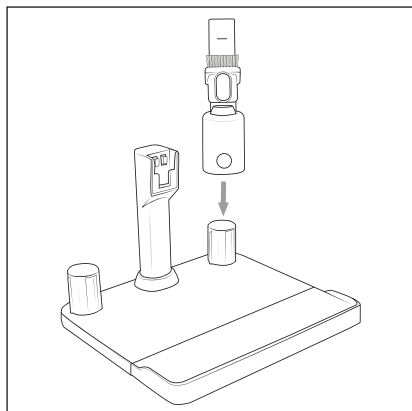

Fig. 13
- ◆ After use, press the On/Off switch (1) (30) to switch off the appliance. The display panel (27) goes out.
- ◆ If necessary, remove the 2-in-1 combination brush (13) from the appliance and place it on the accessory holder (16) for storage (see Fig. 13).